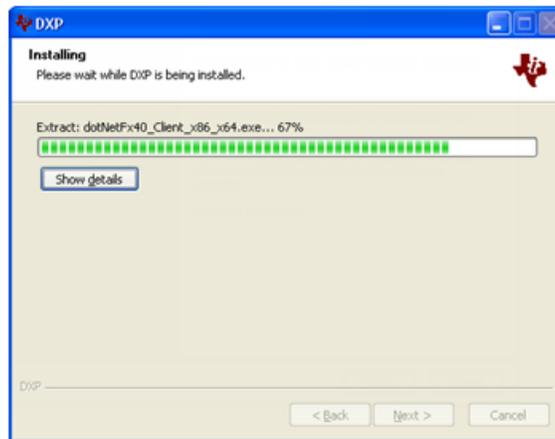

Figure 2. DXP Installation
6. The installer will continue as shown in Figure 2.